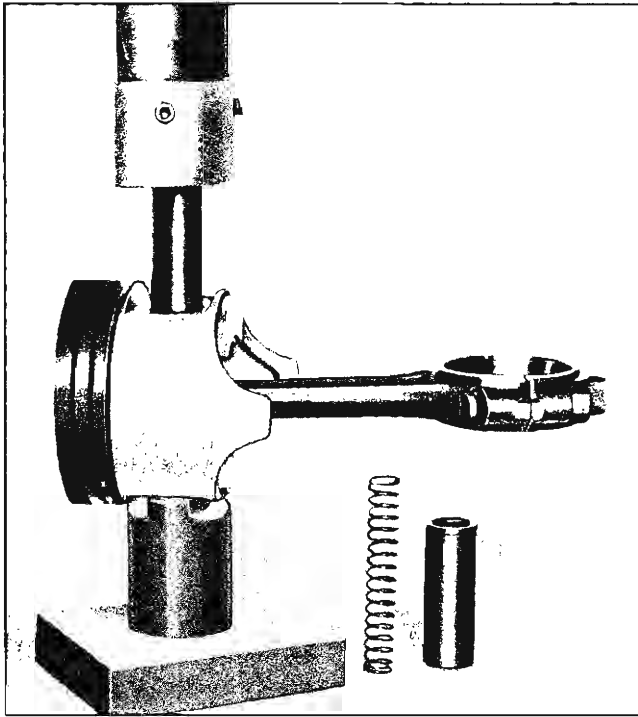

Fig. 58—Removing Piston Pin
- Install piston and connecting rod assembly on support and place assembly in an arbor press as shown in Figure 58. Press pin out of connecting rod.